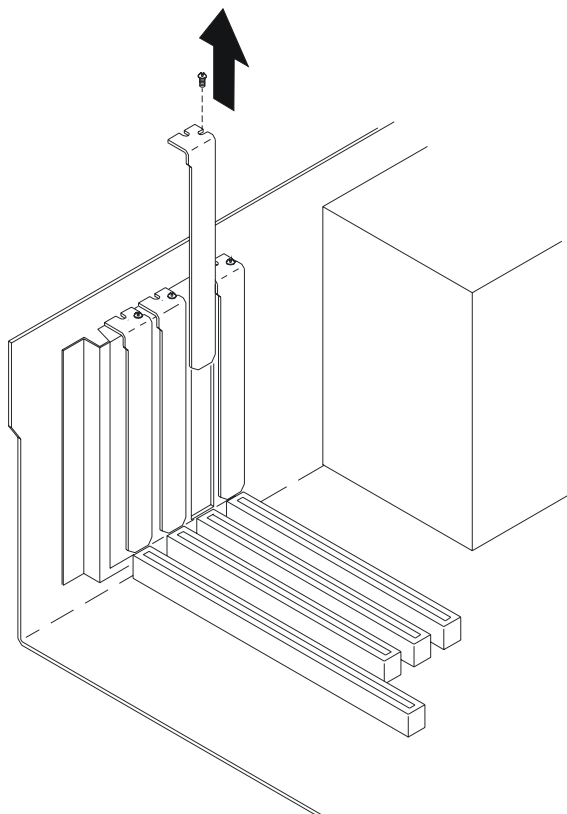

Figure 4-3 **Removing the PC Expansion Slot Cover.**
3. Remove the corresponding expansion slot cover (Figure 4-3) from the computer chassis.